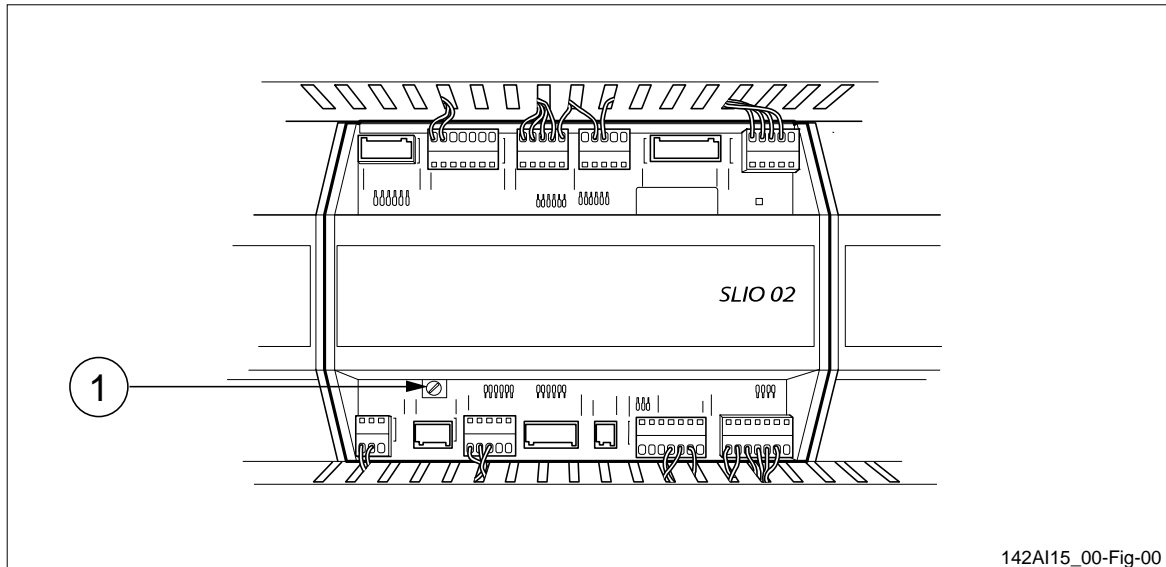

Figure 9 SLIO 02 PC-board.
2. Take note of the SLIO 02 address switch position. See figure 9.